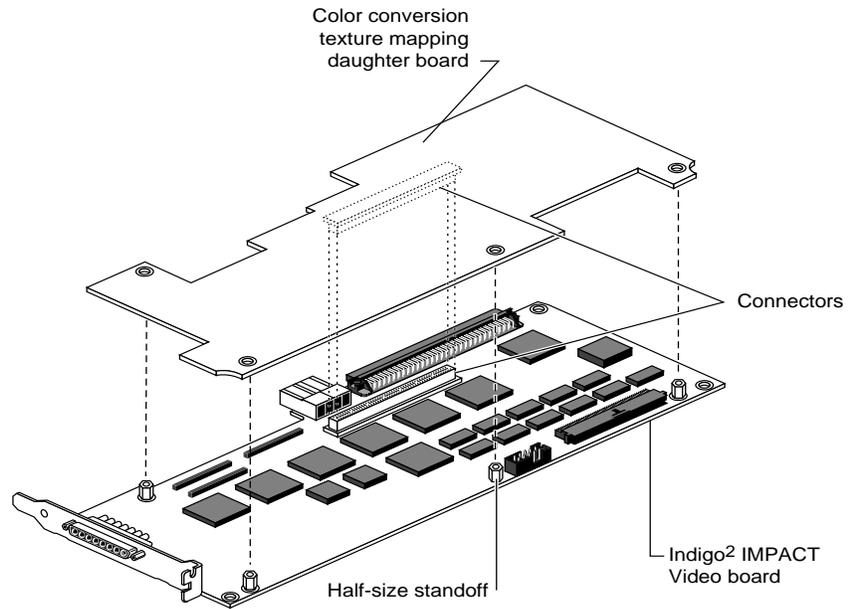

Figure 3-5 Aligning the Video Board and Daughter Board
6. Align the daughter board over the video board so that the screw holes are properly aligned with the standoffs (Figure 3-5)